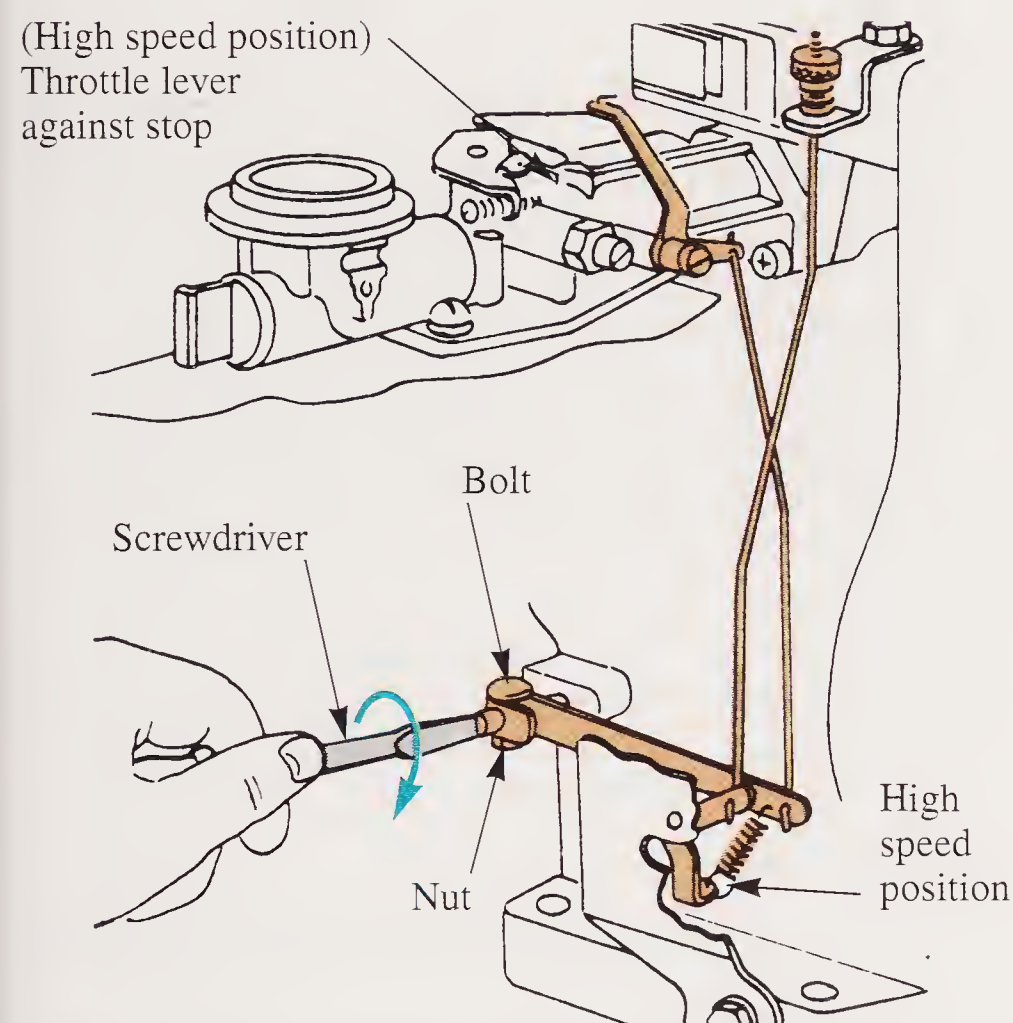

Figure 13-38. Governor used on a horizontal shaft engine.
5. Check the governor linkage for freedom of movement. **Figure 13-38** illustrates a governor used on a horizontal shaft engine. Adjustment of the governor lever is the same as the one in **Figure 13-37**.